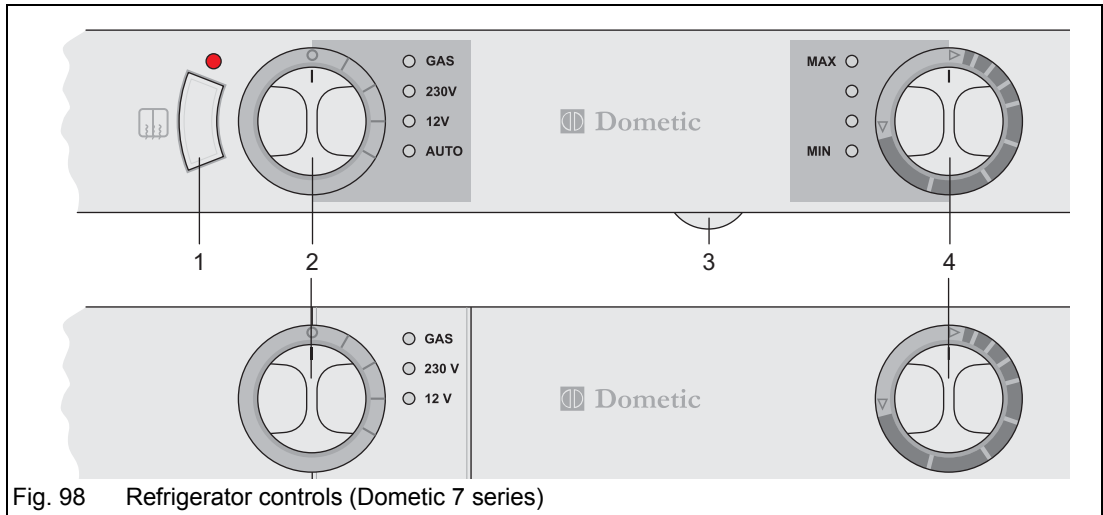

Fig. 98 Refrigerator controls (Dometic 7 series)
- Switch on the frame heater with the switch (Fig. 98/1).